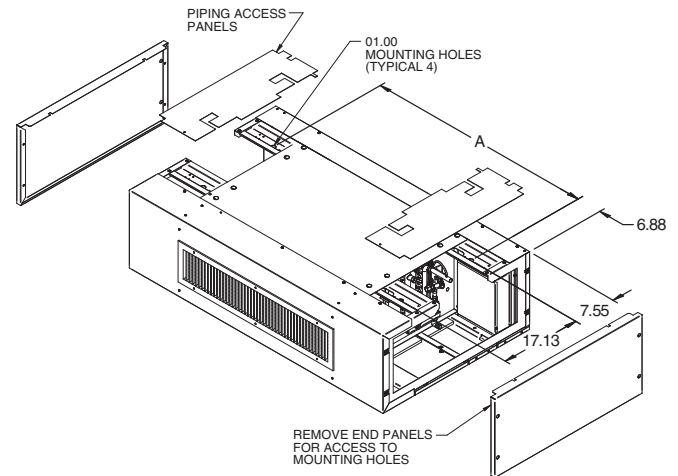

Fig. 3 — Mounting Hole Locations
4. Raise the unit to the mounting position. Use field supplied rods and fasteners with 1-1/2 in. diameter washers to suspend the unit at the mounting holes located at the top of the unit (Fig. 3 and Table 2). The unit must be suspended at each of the (4) 1 in. mounting holes. Do not suspend from any other locations.